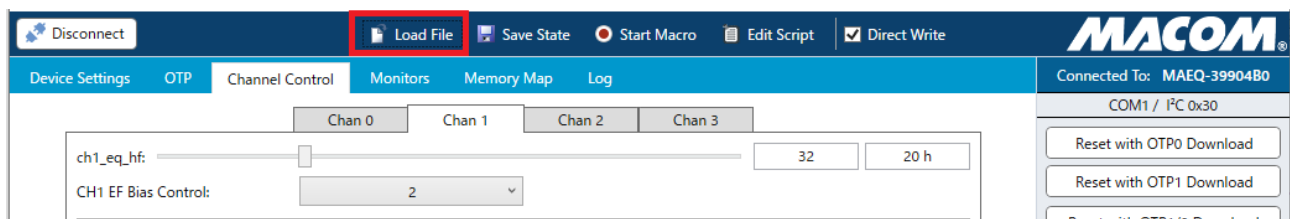

Figure 3.2-1 Loading a Preset File
3. Click the **Channel Control** tab, click **Load File** shown in Figure 3.2-1, and select a preset file.
4. Turn the G0430A on, load channel control parameters shown in Table A-1 from a preset file named MAEQ-39904_EQ_P0.txt first as shown in Figure 3.2-1.